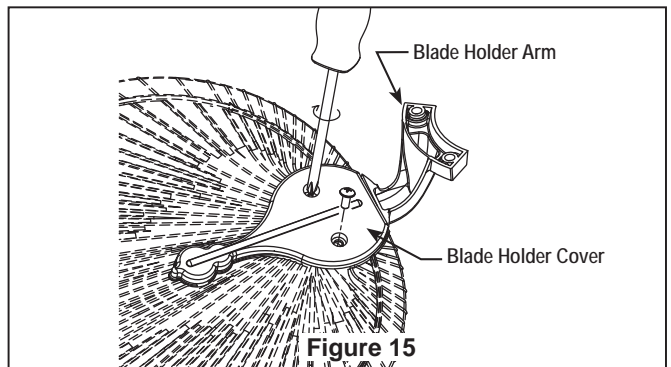

Figure 15
- 2. Lay flat side of blade holder arm on a flat surface with the inside of the blade holder arm facing up. This is the side with the threaded posts and pitched foot. Position the blade cover the blade holder with the threaded posts showing. Make sure the bottom edge of the blade is fully seated against the blade holder arm. Place blade holder cover on top of the blade, positioning the holes over the threaded posts. With a Philips screwdriver, thread both screws into the posts but do not fully tighten. Prior to final tightening, position the centerline of the blade holder with the center of the end of the blade. Tighten both screws to secure the blade. (Figure 15)